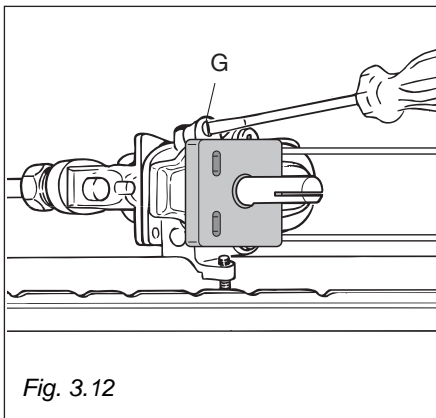

Fig. 3.12
- remove the knob and by a thin screw-driver (3 mm section - 100 mm long) unscrew of about a half turn the screw by-pass **G**, passing through the front panel hole (fig. 3.12)